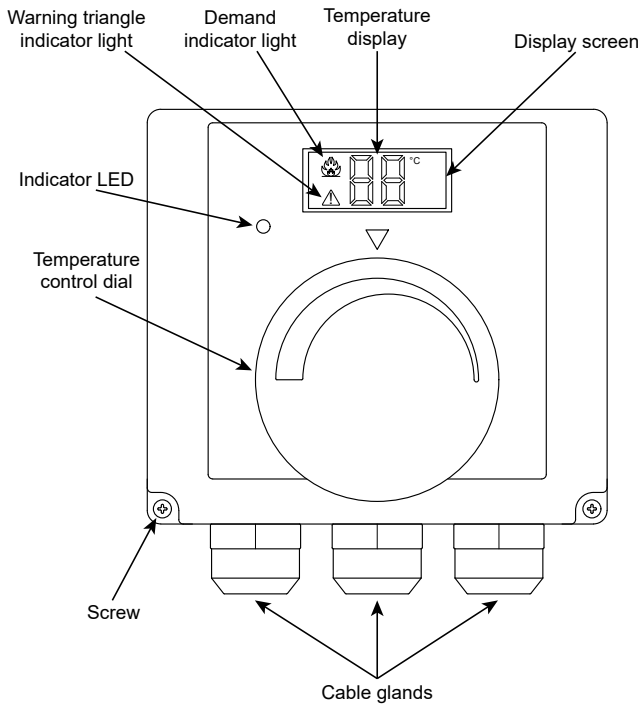

Figure A-1: Digital Dual Thermostat - Front View
You will be able to tell if the Fail Safe function has operated, as the warning triangle in the bottom left hand corner of the display screen will be illuminated and the indicator LED will be illuminated red (see Figure A-1).
1. Allow the temperature of the contents of the cylinder to drop below 65 °C. This temperature is indicated on the thermostat display, refer to Figure A-1.
If this function operates, the warning triangle in the bottom left hand corner of the display screen will be illuminated and the indicator LED will be flashing red (see Figure A-1).
2. Remove the two screws securing the wiring cover to the back of the thermostat (see Figure A-1) and carefully remove the wiring cover.
When the temperature of the contents of the hot water cylinder is below the target temperature set by the thermostat, a small flame icon will appear in the top left hand corner of the display screen approximately 10 seconds after the status of the indicator LED changes. See Figure A-1.
If the "Fail Safe" function operates (refer to Section A.1.2), a warning triangle will appear in the bottom left hand corner of the display screen approximately 10 seconds after the status of the indicator LED changes. See Figure A-1.
The thermostat is equipped with an LED to the lower left of the display screen (see Figure A-1).
2. Use the temperature control dial (see Figure A-1) to adjust the domestic hot water target temperature.